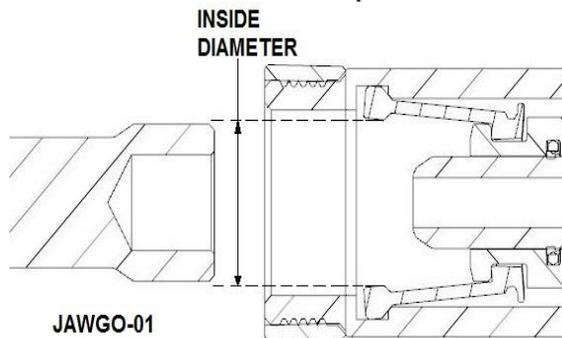

Figure 5: Front Opening
4. **Every four months:** Confirm proper diameter at the front opening of the nozzle (Figure 5) with an OPW Jaw Gauge [Part# JAWGO-1]